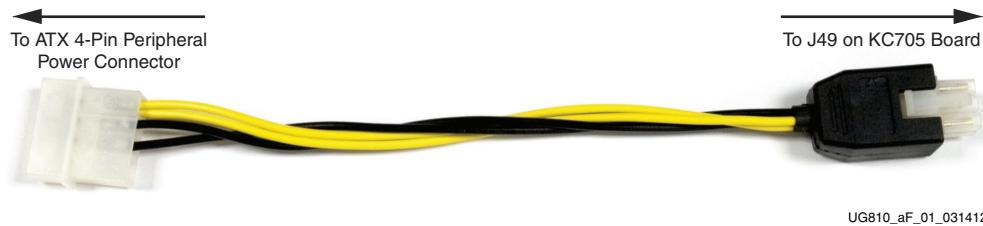

Figure D-1: ATX Power Supply Adapter Cable
When the KC705 board is used inside a computer chassis (i.e., plugged in to the PCIe® slot), power is provided from the ATX power supply 4-pin peripheral connector through the ATX adapter cable shown in Figure D-1 to J18 on the KC705 board. The Xilinx part number for this cable is 2600304.
7. Connect the ATX power supply to the KC705 board using the ATX power supply adapter cable as shown in Figure D-1: